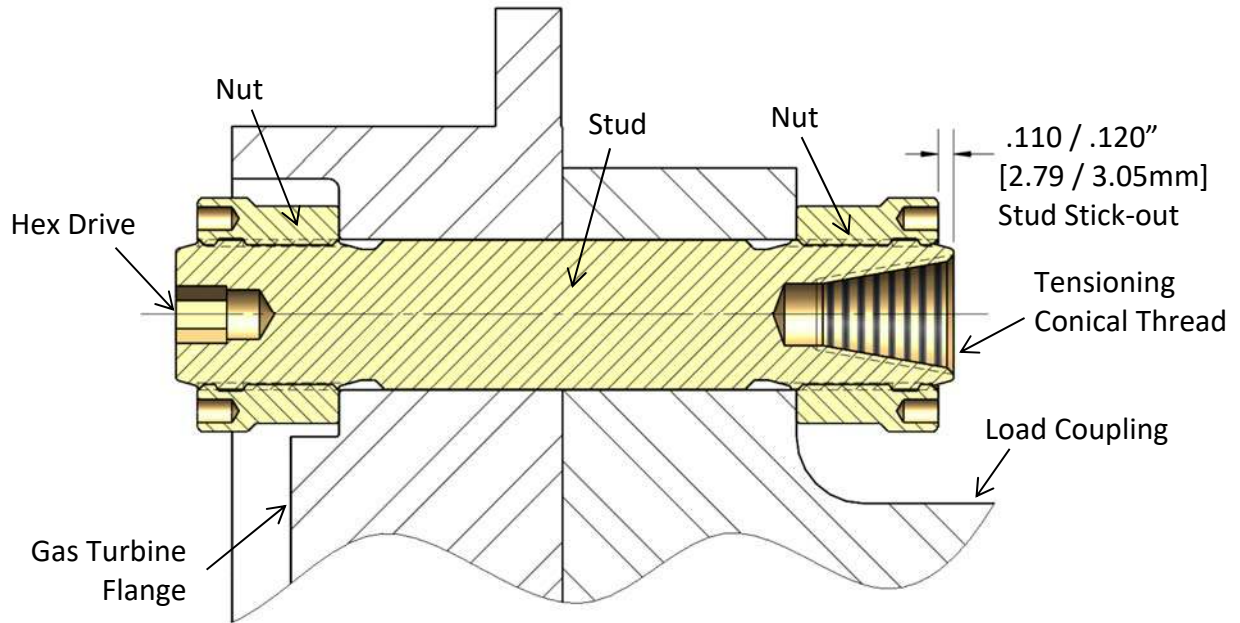

Figure 1A – Cross-section View of Gas Turbine to Load Coupling Bolted Flange Connection
2. Slide the stud and cylindrical nut assembly into the flange as shown in Figures 1A, 1B, 1C, and 1D.